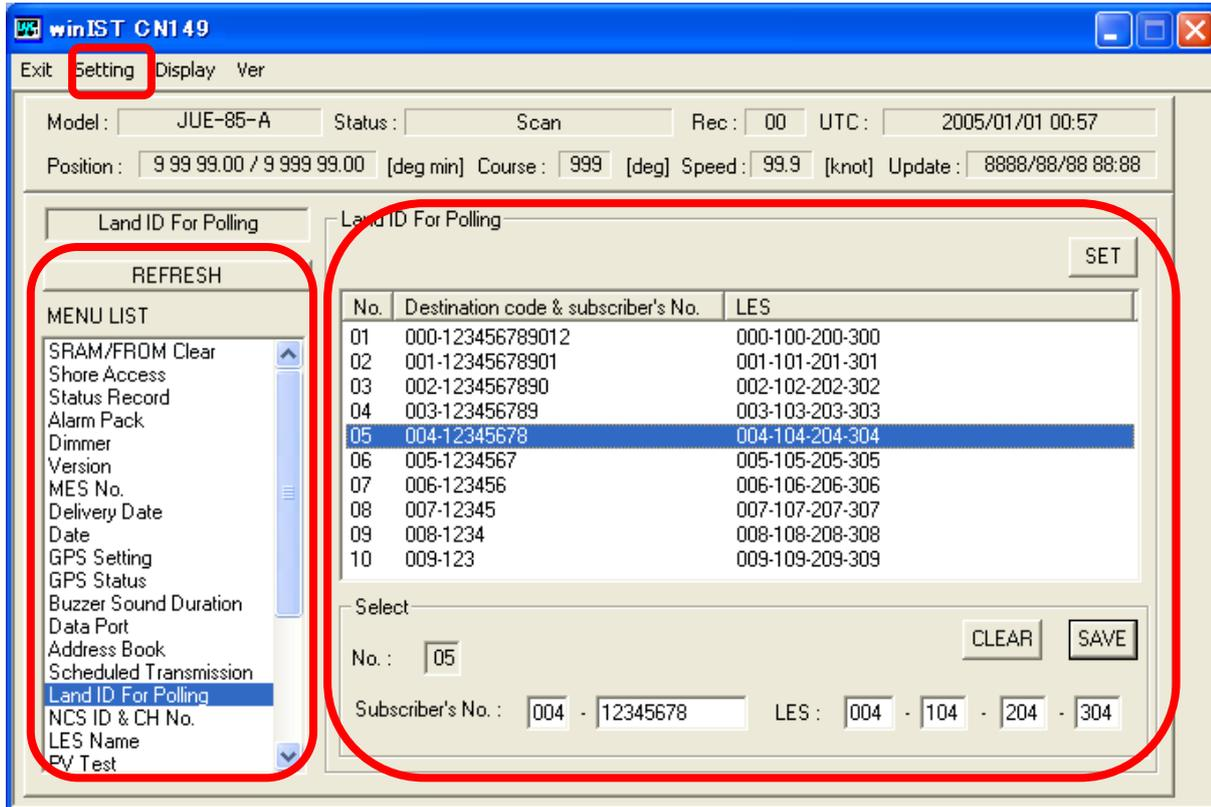

Fig. 4-19-1 [Land ID For Polling] screen
2. Operation except [Exit], [Display], and/or [Ver] is not possible while winIST is communicating with INMARSAT terminal(the function in the frame of **Fig. 4-19-1 [Land ID For Polling] screen** cannot be operated).